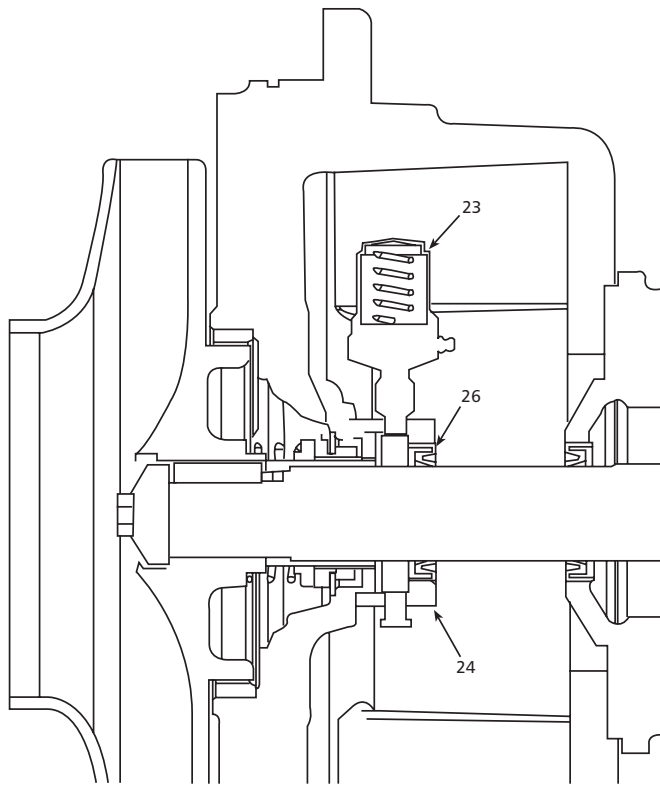

Figure 15
1. The grease gland (24) will have the letters "G" and "O" stamped on the outside diameter and have two 1/8" NPT connections for mounting a grease feeder or oiler.
2. For grease feed applications, the grease gland is assembled with the “G” stamp in the 12 o’ clock position. The grease feeder (23) will mount in the grease gland at a 30 degree angle from the horizontal. This is done to gain access to the grease fitting located on the grease feeder. The lip seal (26) mounted in the grease gland will be assembled as shown in Figure 15.